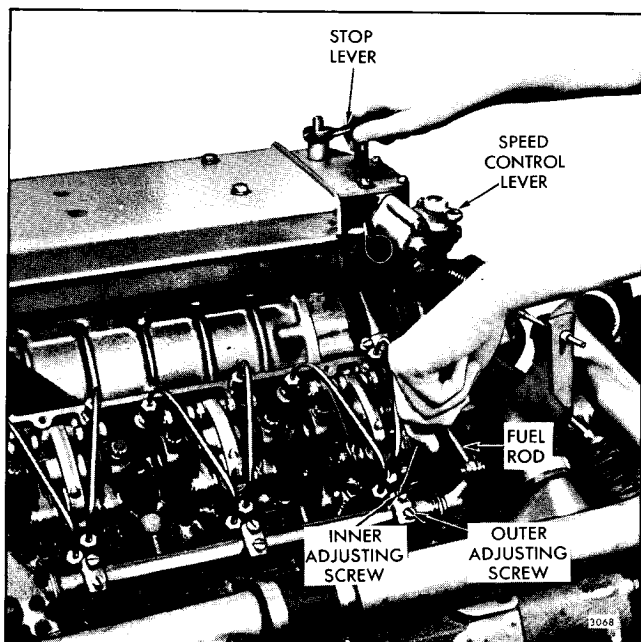

Fig. 3 - Positioning No. 3L Injector Rack Control Lever
7. Move stop lever to the **RUN** position and hold in that position with light finger pressure. Turn the inner adjusting screw of No. 3L injector rack control lever down, Fig. 3, until a slight movement of the stop lever is observed, or a step up in effort is noted. This will place No. 3L injector rack in the **FULL FUEL** position. Turn down outer adjusting screw until it bottoms lightly on the injector control tube. Then alternately tighten both the inner and outer adjusting screws until tight.